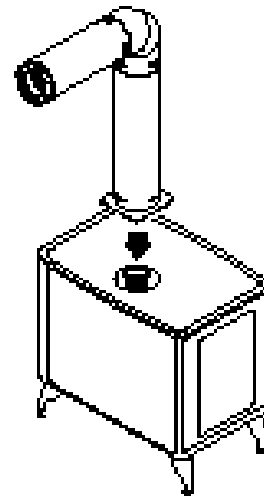

Figure 4
Step 2. DirectVent Pro pipe and fittings are designed with special twist-lock connections. To connect the venting system to the appliance flue outlet, a twist-lock Appliance Adaptor is required. With some brands of appliances, the M&G DuraVent Appliance Adaptor will be built into the appliance at the factory. With other brands the adaptor will be supplied by the appliance manufacturer for installation in the field. Assemble the desired combination of Pipe Sections and Elbows to the Appliance Adaptor (Fig. 4).